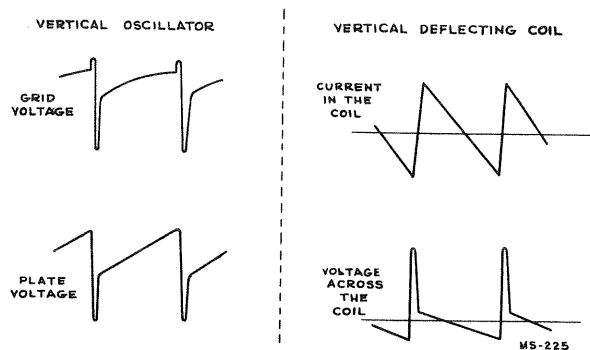

Figure 8—Vertical Sweep Waveforms
R-F Oscillator—The oscillator line is similar to the others except that an adjustment is provided for each channel and the low-frequency coils are not figure 8 windings. For tuning each channel, adjustable brass screws are placed in close proximity to the high-frequency tuning straps L66 to L76, and adjustable brass cores are provided for coils L54 to L62. These adjustments are accessible through the front panel of the cabinet when the station-selector escutcheon is removed. Field service adjustments of the r-f oscillator are thus possible on all channels except 6 and 13. If adjustments are necessary on these two channels, the chassis must be removed from the cabinet in order to gain access to the adjusting screws on L63, L64, L77 and L78. The high-frequency adjustments should be made before each lower-frequency adjustment.
On the plate (2) of V107, a sawtooth of voltage appears due to the slow charging and rapid discharging of C130. A sharp negative pulse also occurs during the discharge period. (See Figure 8.) This pulse appears because of the peaking action of R149 and C130. When the tube is conducting, the plate voltage drops almost to cathode potential. C130 discharges during this time. However, since the conduction time is short, C130 cannot be completely discharged due to the time constant of R149 in series with C130. Then when the tube becomes non-conducting, the plate voltage does not have to rise slowly from cathode potential but instead rises immediately to an appreciable value due to the charge that remains on C130. The plate voltage then slowly rises from this value as C130 charges through R139, R141, R142, and R149. Adjustment of the height control R141 varies the amplitude of the sawtooth voltage on the plate by controlling the rate at which C130 can charge.